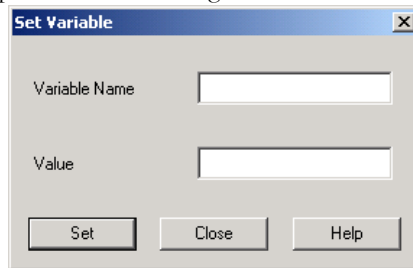

Figure 2-23. Set Variable Dialog Box
1. **From the Options menu, click *Set Variable*.** The Set Variable dialog box appears as shown in Figure 2-23.